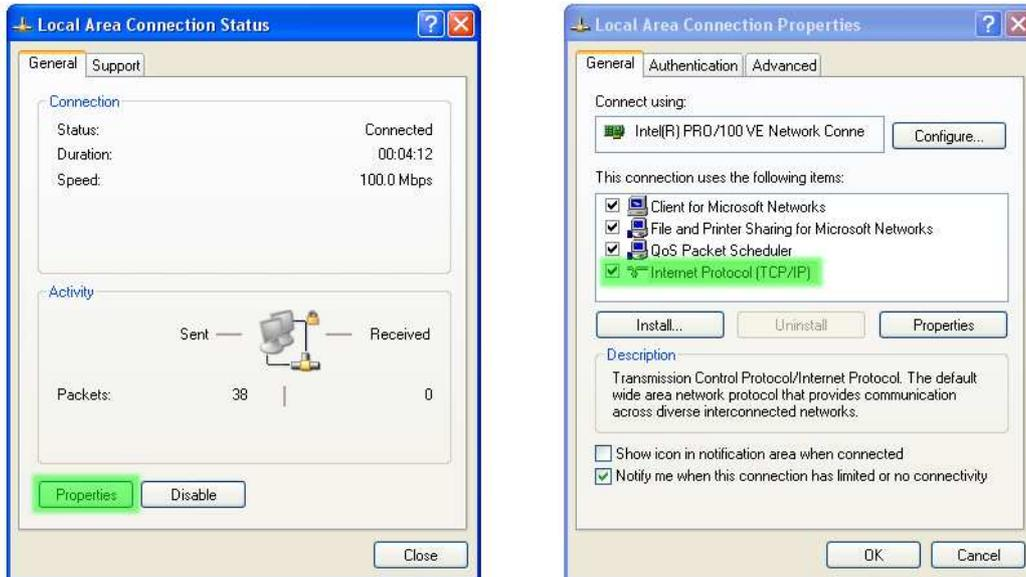

Figure 18: Local Area Connection Status and Properties dialog boxes.
4. The *Local Area Connection Status* dialog box will be displayed, as shown on the left of Figure 18, click the *Properties* button.
5. The Local Area Connection Properties dialog box, as shown on the right of Figure 18, will be displayed. Click on *Internet Protocol (TCP/IP)* to highlight it and then click the *Properties* button.